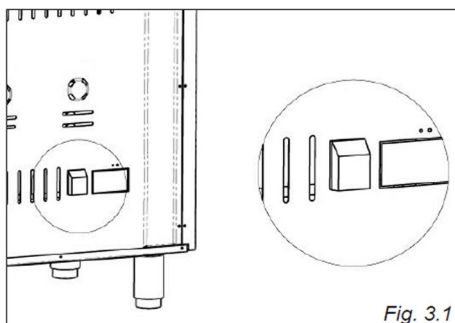

Fig. 3.1
- Unscrew the screw to secure the guard behind the kitchen (fig. 3.1).
The gas flow to the burners is controlled by a valve tap operated by the knob in fig. 3.1.